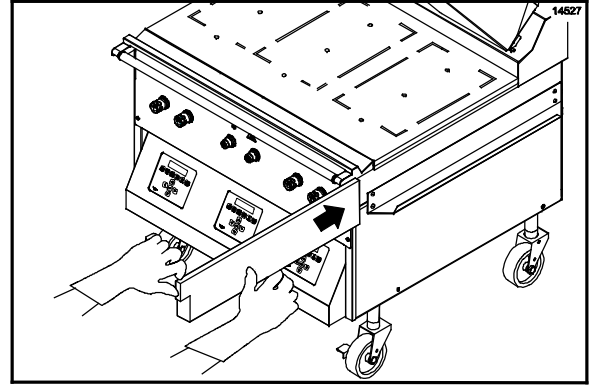

Figure 114
47. Re-install the grease pans. (See Figure 114.)